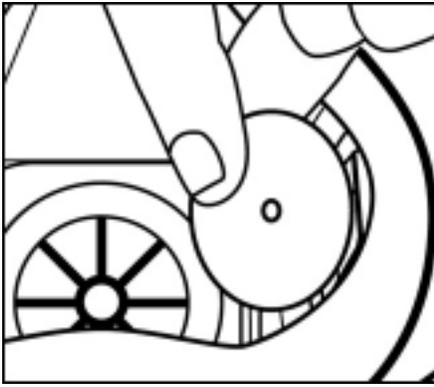

Fig. 9
1. Remove existing valve(s) by lifting from post(s). (Fig.9)